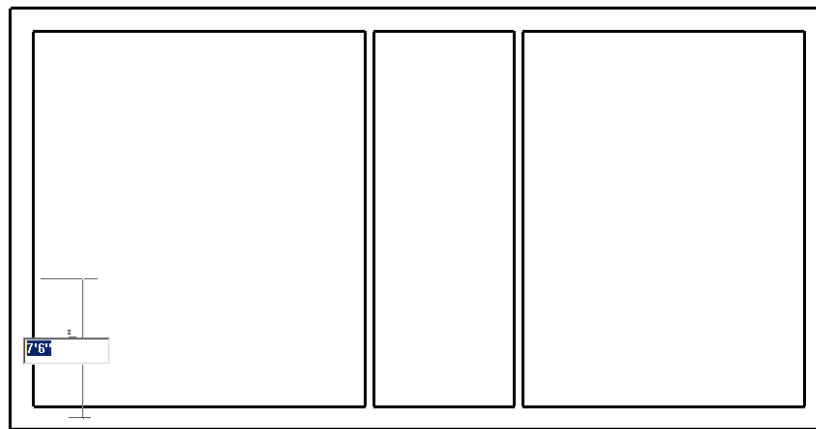

Figure 2-52 Specifying the distance for sketching the third internal wall
3. Move the cursor to the lower left corner and then move it vertically upward. When the temporary dimension appears, enter **7'0"** to select the starting point of the third interior wall, as shown in Figure 2-52.